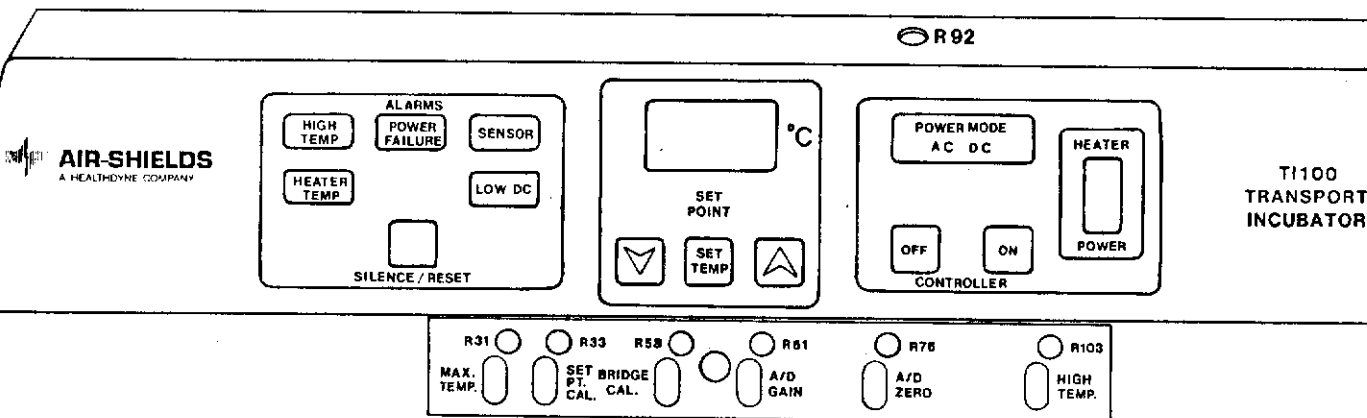

FIGURE 5.1 ADJUSTMENTS AND TEST POINTS
6. CHECK 150 HZ CLOCK by connecting an oscilloscope to TP10 (Figure 5.1). The clock period should be 430 ms \pm 30 ms. If necessary, adjust R92 until period is within specifications. (See Note below).